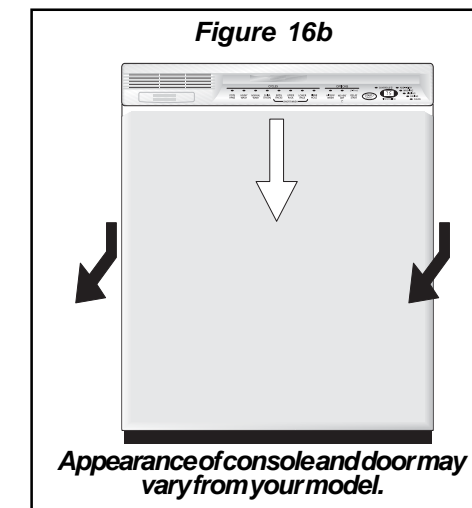

Figure 16b
- Place one hand on each side of door and pull down at top approximately 1/4". Pull entire door assembly toward you to remove. See **Figure 16b**.